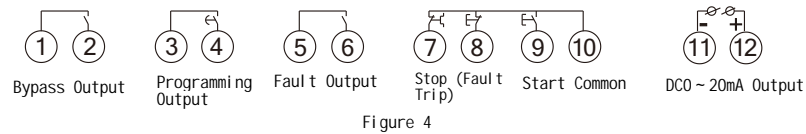

Figure 4
a) The external control terminals are shown in Figure 4: